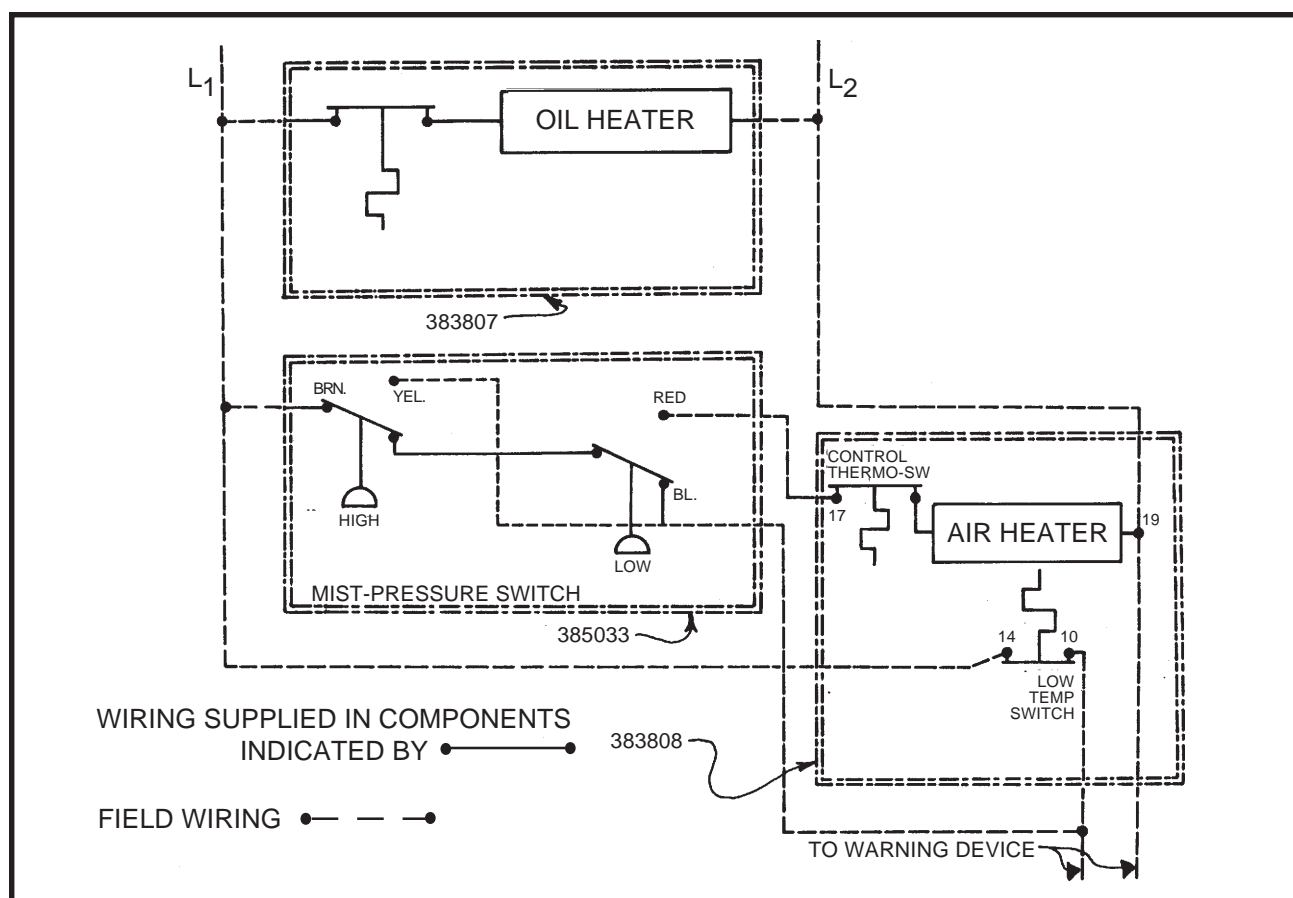

Figure 3: Wiring Diagram
1. Consult the Wiring Diagram in Figure 3.